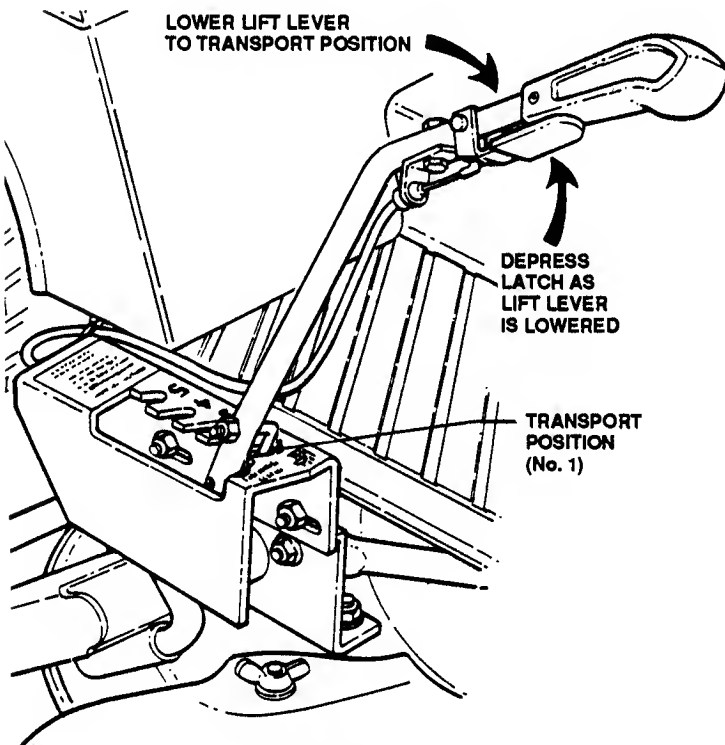

FIGURE 16
2. Depress latch and lower lift lever to TRANSPORT POSITION. See Figure 16.